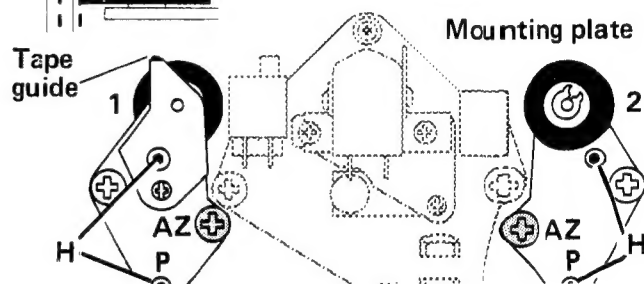

Fig. 4.7 Adjustment screws for pinch rollers
**Adjusting height and parallelity without using Tool No. 4.** Insert Tandberg Test Tape No. 29, the open cassette. Move the mounting plate inwards. Look at fig. 4.7 and adjust with the screw P on roller 1 so that the tape fits into the tape guide of the roller. Also adjust the two screws H if necessary. Turn both screws equal amounts. Also turn the azimuth screw correspondingly in the opposite direction to keep the roller roughly in correct azimuth position.